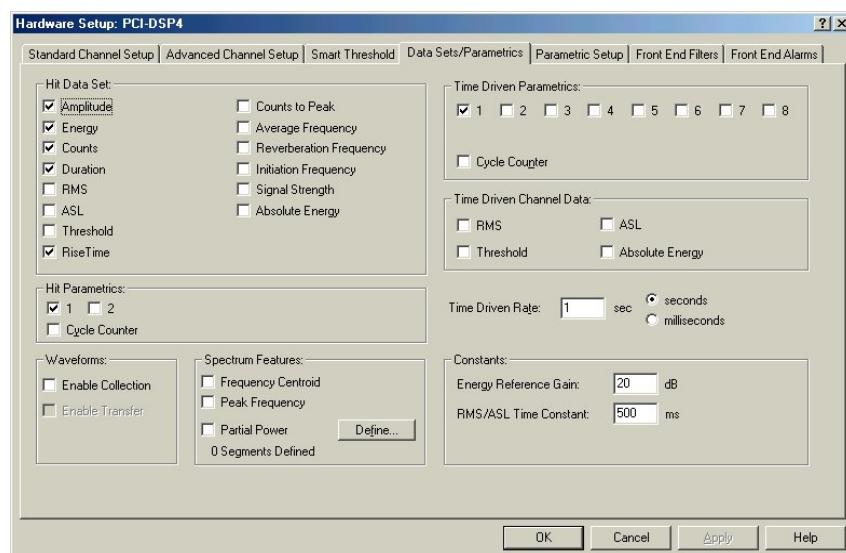

Figure 8. Datasets Menu on AEwin
Since there can be multiple PCI-2 boards in the PCI-2 based AE System (up to 4 boards maximum), there needs to be a way to identify which channel group (in 2 channel increments) a given PCI-2 board should be assigned to. Specific AE channels for multiple boards are set by SW-1, switches #1–6. SW-1 can be seen in figure 8 at the top right hand side of the PCI-2 card. These addresses are set using a binary pattern where SW-1, position 1 corresponds to the LSB (least significant bit) and SW-1, position 6 the MSB (most significant bit). It is programmed assuming that OFF or OPEN means a binary weight of "1" and ON or CLOSED is a binary "0." Also it is programmed where all 0's (in the chart below) correspond to board #1 (AE channels 1 - 2).
Figure 8 shows the AEwin “Data Sets” menu. It is from this menu that AE Hit features and AE Time Driven features are selected for processing and storage.
Referring to the figure 8, There is an area for selecting which AE Hit Features (left side of the menu) and Time Driven AE Information. In regards to the hit features, note at the bottom of the menu, even up to 2 parametrics can be chosen to be in the hit data set. In this mode, parametric information can be updated at rates up to 20,000 times per second. In addition, note that there are 14 standard AE features (top left side of the menu).
- Energy:** (also referred to as “PAC-Energy”). PAC Energy has been a PAC AE feature parameter since 1978. “PAC-Energy” is a 2-byte parameter derived from the “integral of the rectified voltage signal over the duration of the AE hit” (or waveform), hence the voltage-time units). Although PAC-Energy has the same definition as Signal Strength, the only difference is in the sensitivity, size and dynamic range of this parameter. In other PAC instruments, such as SPARTAN’s and LOCAN’s, the “PAC Energy” feature is a gain dependent quantity. For example at 0 dB instrument gain, its resolution is 10 microvolts-seconds (per Energy count) while at 20 dB, PAC-Energy resolution is 1 microvolt – second (per count). However, the PCI-2, DiSP, MISTRAS-2001 and LAM doesn’t have or need gain setting since they operate over the entire AE signal dynamic range (without the need for gain). Therefore, in order to allow customers who have used our products over the years relate the PAC-Energy readings from those earlier products (such as SPARTAN’s and LOCAN’s), we have created a control called “Energy Reference Gain”. The “Energy Reference Gain” setting now provided in the “Data Sets” dialog box (bottom right of figure 8) allows you to match the value of Energy reported by our DiSP, MISTRAS or LAM, to that of a SPARTAN-2000 or other PAC instrument which has programmable gain. The value of the Energy Reference Gain can be set from the Data Sets Dialog box (Test Setup, Hardware Setup, Data Sets...). The range is 0 to 60 dB.
- Duration:** AE Duration is defined as the time from the first threshold crossing to the end of the last threshold crossing of the AE signal from the AE Threshold. An example is shown in figure 8.
- RMS:** Root Mean Square is a measure of the continuously varying AE signal “voltage” into the AE system. RMS is an electrical engineering power term defined as the rectified, time averaged AE signal, measured on a linear scale and reported in volts. In terms of an AE hit feature, the instantaneous value of RMS voltage is collected and processed along with the other AE Features when an AE hit is detected. Since there is an averaging required, an RMS/ASL Time Constant Control is provided in the Data Sets menu to allow adjustment between 10 – 1000 milliseconds (note the RMS/ASL Time Constant entry box in the lower right side of the Data Sets menu of figure 8).
- ASL:** Average Signal Level is a measure of the continuously varying and “averaged” amplitude of the AE signal. This measurement is similar to that of RMS in that it is an averaged reading. The main difference is that the RMS is following the Root Mean Square and is measured in volts, whereas the ASL is following the Amplitude variation and is measured in dB. Since there is an averaging required, an RMS/ASL Time Constant Control is provided in the Data Sets menu to allow adjustment between 10 – 1000 milliseconds (note the RMS/ASL Time Constant entry box in the lower right side of the Data Sets menu of figure 8).
A groupbox called 'Spectrum Features' is located in the Data Sets Menu (see figure 8) just below the Hit Data Set parameters. This box contains the Partial Power selection and setup boxes. The Data Sets menu can be reached through the menu structure (Test Setup -> Hardware -> Data Sets). The Partial power portion of the Spectrum Features box contains: